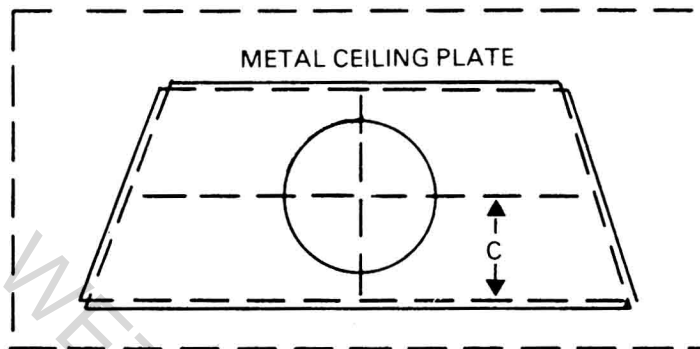

Fig. 3
3. Place the template on the metal ceiling plate lining up holes and tape onto it. Trace template size onto metal ceiling plate (figure 3) and remove. Add 1" bending allowance on all sides for lip. (Leave corners notched.) Cut to shape. Bend lips down to required angles. (You can bend it by clamping it between two pieces of wood.)